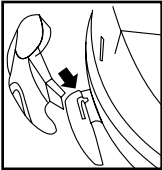

FIGURE 15
19. Place "J" shaped tabs into the slots on cord wraps **FIGURE 15.** Press down until tabs snap into place.